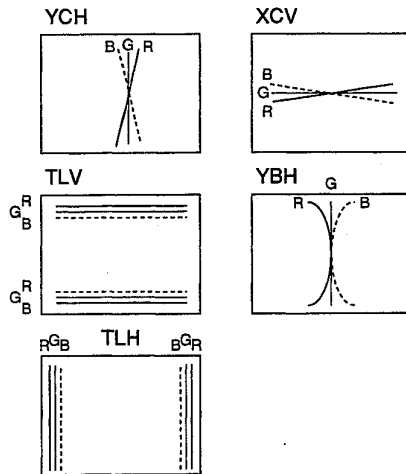

Fig. 3-26 Convergence compensation VR, coil, and compensator
3. When the nonconvergence of the TILT component is included in the horizontal convergence, insert the TLH compensator into the deflection yoke for adjustment. (Fig.3-26)
3. When the nonconvergence of the TILT component is included in the vertical convergence, insert the TLV compensator into the deflection yoke for adjustment. (Fig.3-26)